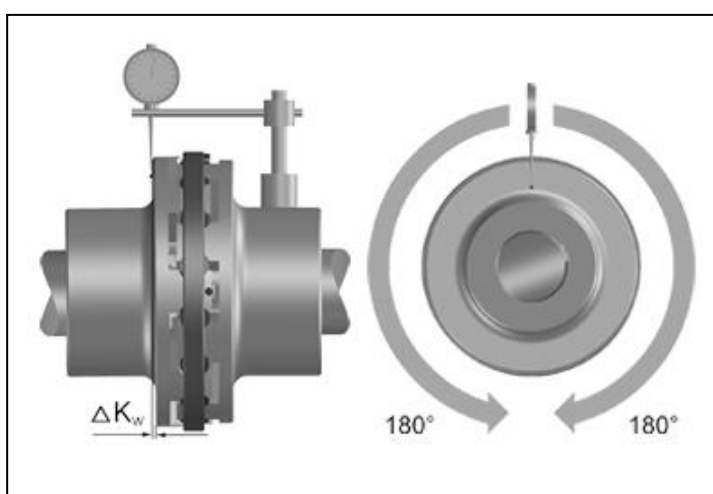

Fig. 6
- Measure one complete rotation (360°) on the face of the outer diameter. Determine the largest deviation  $K_{w1}$  and the smallest deviation  $K_{w2}$  (Fig. 6).